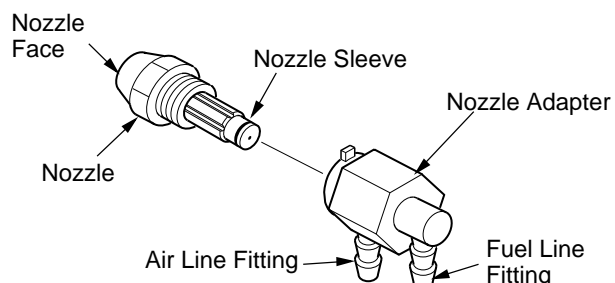

Figure 16 - Nozzle and Nozzle Adapter
6. Carefully remove nozzle from the nozzle adapter using 5/8" socket wrench (see Figure 16).
9. Replace nozzle into nozzle adapter until nozzle seats. Tighten 1/3 turn more using 5/8" socket wrench 4.5 to 5.1 N-m (40 to 45 in-lbs). See Figure 16.